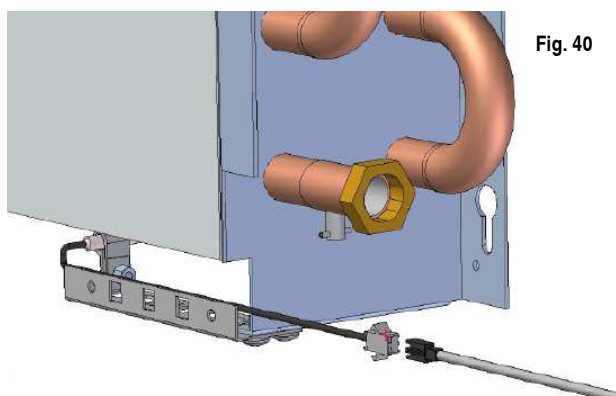

Fig. 40
6. Connect the room temperature sensor: Fig. 40